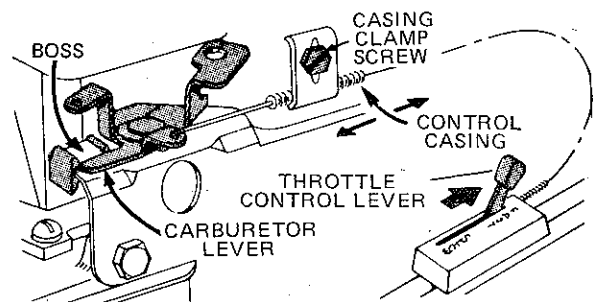

Figure 11
- Loosen casing clamp screw (Figure 11).
- Move control casing forward or backward until carburetor lever touches boss as shown in Figure 11.